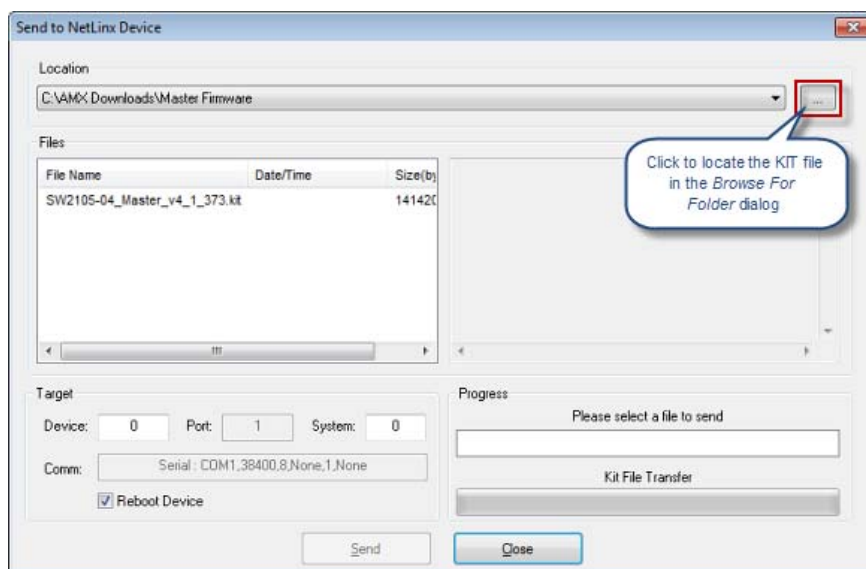

FIG. 28 NetLinx Studio - Send To NetLinx Device dialog
5. Click the *Browse* button (...) to locate and select the firmware (*.kit) file that will be transferred, in the *Browse for Folders* dialog (FIG. 28):